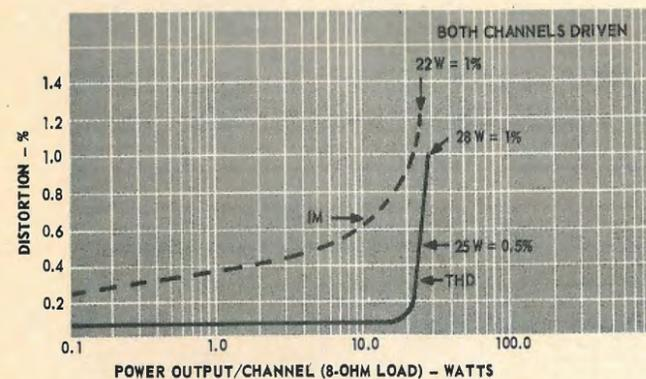

Fig. 5—THD and IM distortion characteristics.
For this service, the R-50 departs from the ideal mostly in presenting a peak between 1.5 kHz and 3 kHz and in showing a treble roll-off of 12 dB per octave, from there up to 6 kHz, in excess of the 6-dB-per-octave slope of the loss curve in this vicinity. It was planned at once to use two 6-dB-per-octave boost networks, one at each cartridge, similar to those of Fig. 5, but with break frequencies of 3 kHz and 6 kHz. Thus, the theoretical loss curve would be reasonably well fulfilled. Then, the plan would be to try to discover further means of equalization.
At last, it was felt that the remaining equalization could be obtained with tone controls, but this proved not to be the case with the intended preamplifier (Dynaco PAT-4). Consequently, the passive equalization circuits were changed to agree with those shown in Fig. 5. Up to 3 kHz, the response was hardly changed, but some 5 dB of further boost was evident by 12 kHz. In the final installation, the response was measured with tone-control equalization with the results shown in Fig. 10.
Fig. 10—Final equalized response. The conditions are the same as for Fig. 9, except that the passive-network time constants are those of Fig. 5, and the tone-control adjustments of the Dynaco PAT-4 preamplifier were used—maximum treble boost, slight bass boost, 10 kHz roll-off filter. The effects of a low cut (L) and 15-kHz or 7-kHz cuts are shown near one of the curves in dashed line. When the R-70 network is replaced by a preamplifier modification (Table 1), the bass response is more like that shown in Fig. 8.
Note that we measure amplifier power at 8-ohm load, so that the figures obtained for the Bogen BR-360's amplifier section cannot be directly related to their published specifications, which refer to 4-ohm loads. In order to be fair and so that you can compare results against other products in the same price category, we must publish our findings in a consistent manner—the one recommended by the IHF. In any case, with both channels driven, the amplifier reaches an output of 28 watts per channel at 1.0% THD. The rated distortion of 0.5%, referred back to 8 ohms, occurs at an output of just over 25 watts per channel which, for our purposes, becomes the 8-ohm rated output upon which we base our power bandwidth curves and IM measurements. Both THD and IM are shown in Fig. 5, while